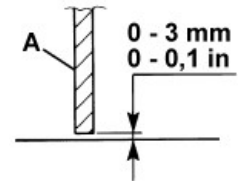
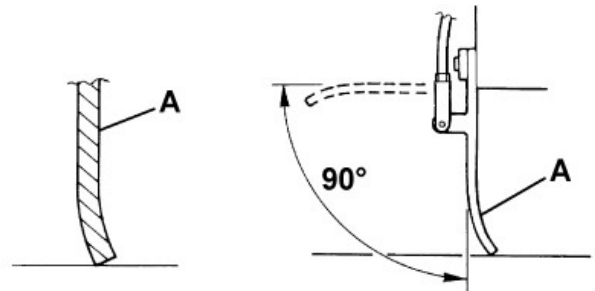
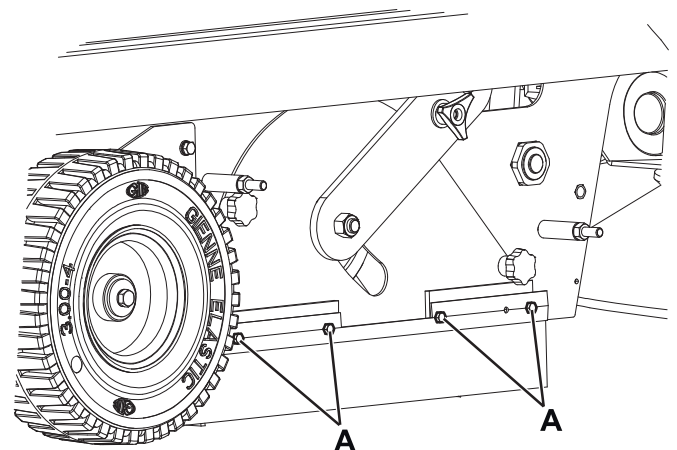
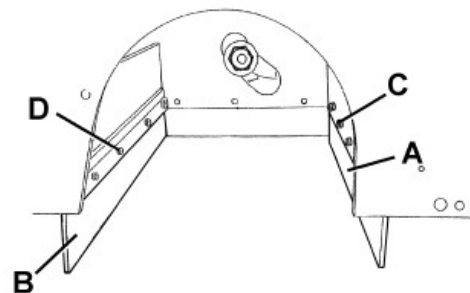

Figure 14
Figure 15
Figure 17
Figure 18
3. Check that distance from the ground of the side skirts (13 and 14) is within 0 – 3 mm (A, Fig. 14). If necessary, adjust the skirt height by using the slots on the screws (A, Fig. 17).
- The front skirt (A, Fig. 18) slightly touches the floor (A, Fig. 15).
- The distance from the ground of the rear skirt (B, Fig. 18) is within 0 – 3 mm (A, Fig. 14).
4. If necessary, adjust the skirt height by using the slots on the screws (C and D, Fig. 18).